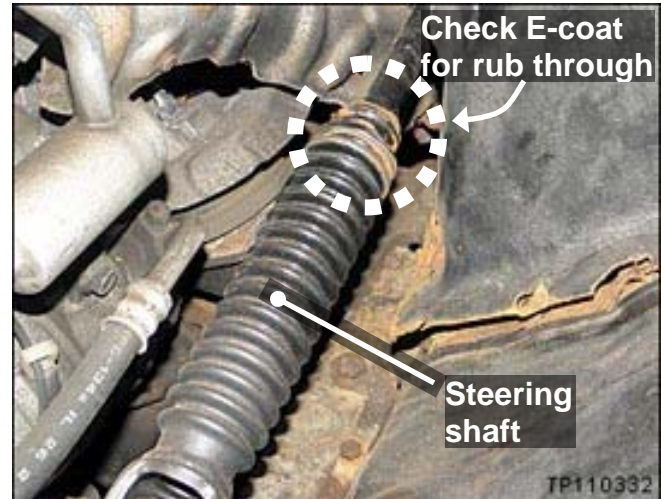

Figure RB5
6. Inspect the steering column upper joint (steering shaft) in the area circled in Figure RB5.